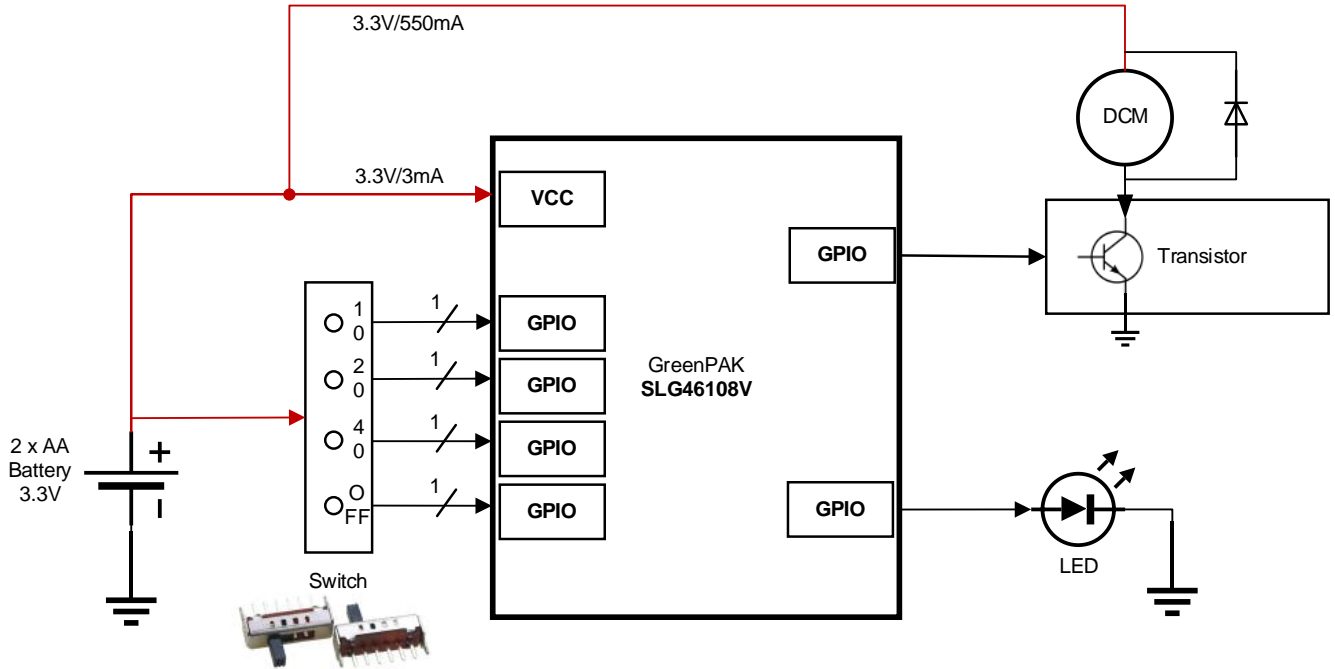

Figure 1. Block Diagram of GreenPAK-based Air Freshener (AS064-2)
- Figure 1. Block Diagram of GreenPAK-based Air Freshener (AS064-2)2